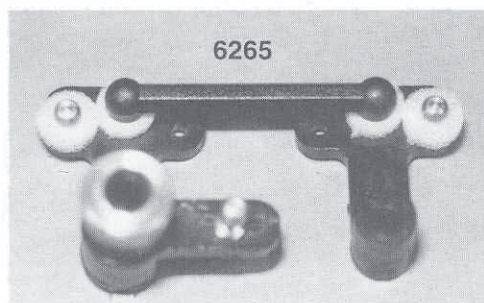

Fig. 28
□ **Fig. 28** From bag #8-2 remove the new #6265 molded drag link. We want to install the drag link by snapping it over the two center balls on both the servo saver arm and the bellcrank as shown in the photo.